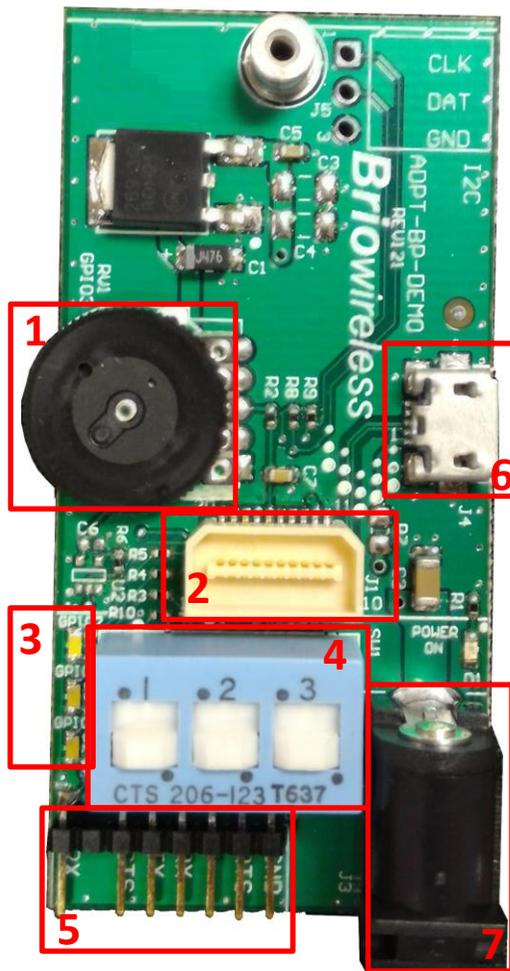

Figure 2: ADPT-BP-DEMO board
The demo board is mainly used to do a quick demonstration of all the BitPipe™ features. Figure 2 identifies various elements on the board. Each section is listed below:
Insert the modem in the socket of the ADPT-BP-DEMO board (box 2 in Figure 2). Use the provided screw to secure the modem on the board (Figure 4). All switches (box 4 in Figure 2) should be at the bottom position to enable the default Modem mode. Please refer to the BitPipe™ Cellular modem datasheet for more information about its operating modes.
- Connect the Wall adaptor in a power outlet. Insert the barrel plug in the demo board power connector (box 7 in Figure 2). The modem will boot automatically and the “Power ON” LED (D1 next to the power connector) will turn ON when the modem is ready to communicate to your board.
- Connect the communication cable (TTL-232R-3V3-2MM) in the FTDI Connector (box 5 in Figure 2).
- Connect the Wall adaptor in a power outlet. Insert the barrel plug in the demo board power connector (box 7 in Figure 2). The modem will boot automatically and the "Power ON" LED (D1 next to the power connector) will turn ON when the modem is ready to establish a communication with the PC.